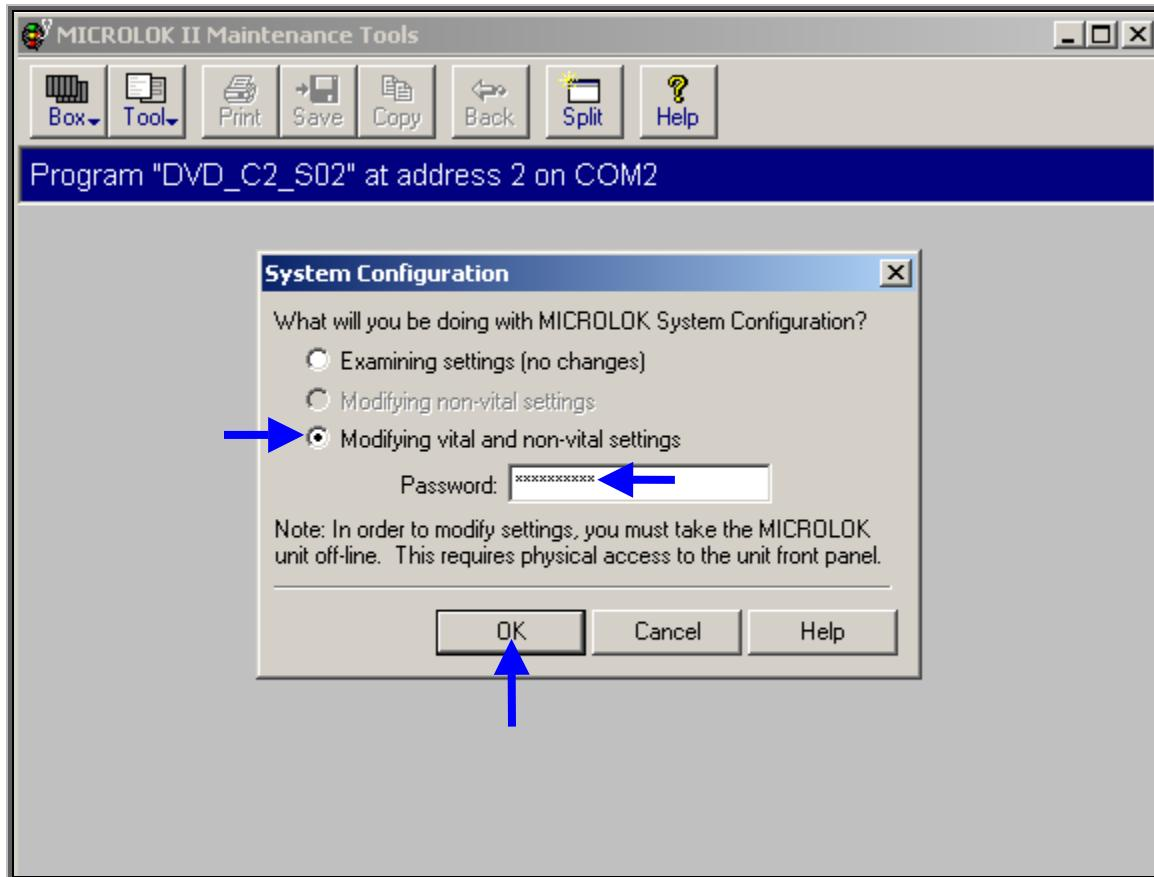

Figure-7.3.4
- ❖ Select the “Modifying vital and non-vital settings” option in the System Configuration dialog box (Refer Figure-7.3.4).
- ❖ Position the mouse cursor in the “Password” field and type in the current password. The default password is “*microlokii*”. (Refer Figure-7.3.4).